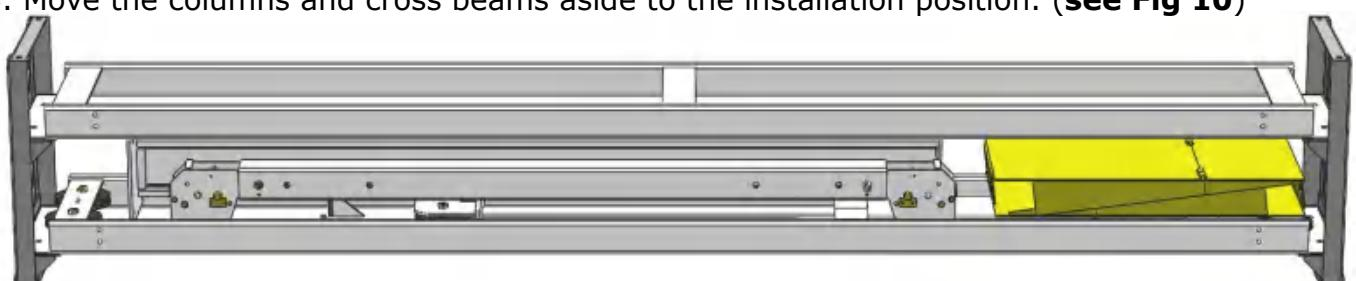

Fig. 10
3. Move the columns and cross beams aside to the installation position. (**see Fig 10**)